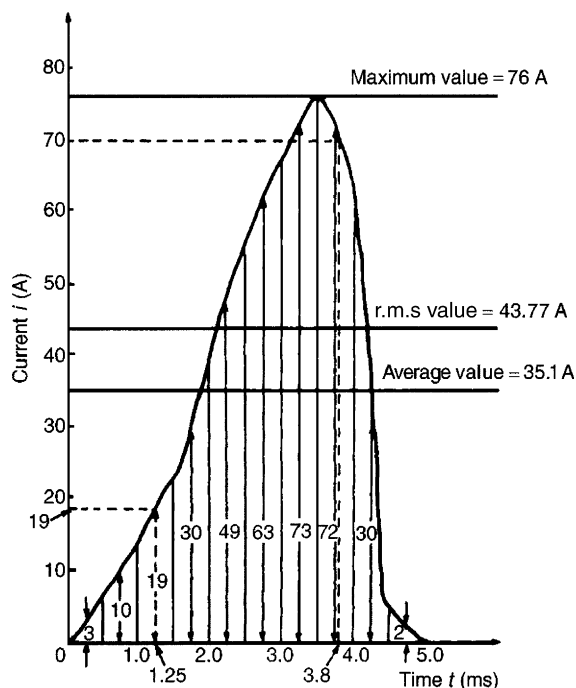

Figure 14.6
The half-cycle of alternating current is shown plotted in Fig. 14.6
- (b) Instantaneous value of current after 1.25 ms is **19 A**, from Fig. 14.6. Instantaneous value of current after 3.8 ms is **70 A**, from Fig. 14.6
$$\begin{aligned} \left. \begin{array}{l} \text{area under} \\ \text{curve} \end{array} \right\} &= (0.5 \times 10^{-3})[3 + 10 + 19 + 30 \\ &\quad + 49 + 63 + 73 \\ &\quad + 72 + 30 + 2] \\ &\quad \text{(see Fig. 14.6)} \\ &= (0.5 \times 10^{-3})(351) \end{aligned}$$